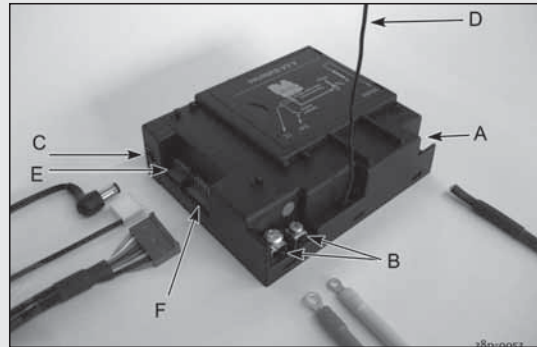

fig. 22D
Follow the procedure below (see fig. 22D):
- Fit the connection cable's brown plug to the receiver (see fig. 22D, arrow F).
- Connect the cables of thermocouple 1 to the receiver; (see fig. 22D, arrows B).
Connect the black wire with the white plug of thermocouple 2 to the receiver (see fig. 22D, arrow E).
- Connect the ignition cable to the receiver; (see fig. 22D, arrow A)
- connect it to the receiver; (see fig. 22D, arrow C);
- Bend the antenna out of the clips; see fig. 22D, arrow D.